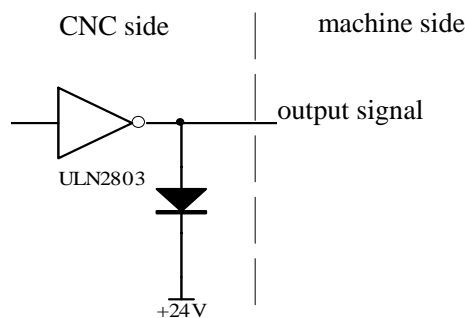

Fig.2-38
2、TL+ and TL- are positive/negative rotation signals, the inside circuit as fig.2-38: